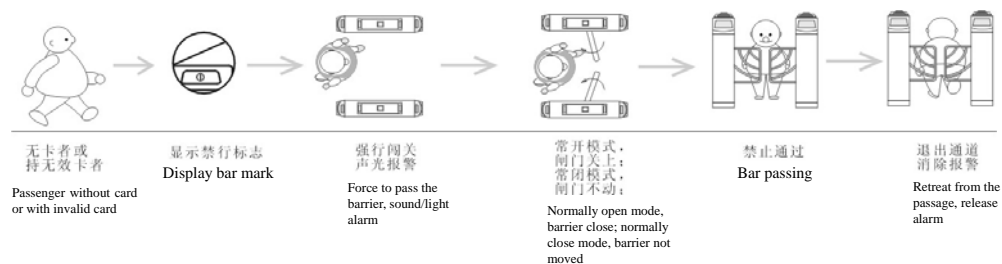

Fig. 16
- 5) Passing bar: for a passage, it is not allowed for any passenger to pass through the passage. The process is as given in Fig.16